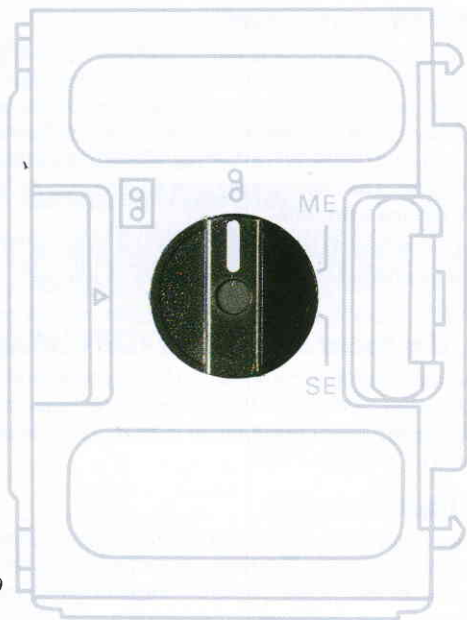

Fig. 9
*The function control switch 21 (fig. 9) has the following settings:*